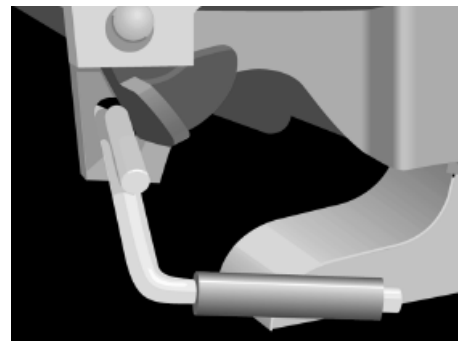

Figure 12
3. **OPEN POSITION (Figure 12)** - With the operating rod in the lockset position, the trailer may be uncoupled. Release tractor brakes and pull the tractor away from the trailer.